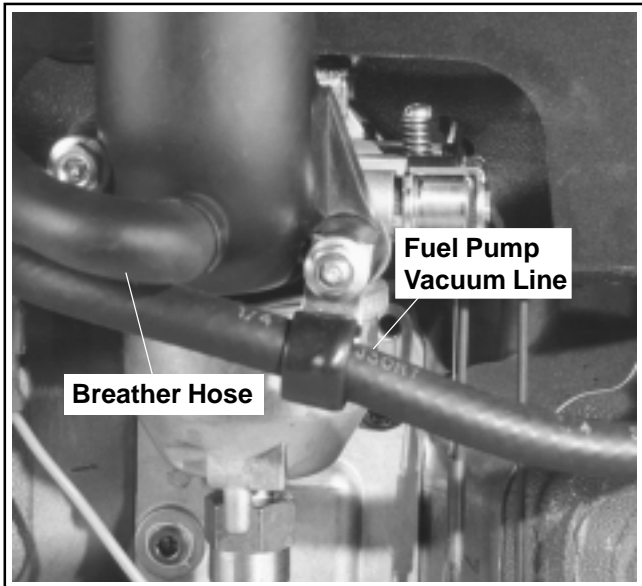

Figure 4-9. Base Plate Removal on Standard Type.
3. Remove the two hex. flange nuts securing air cleaner base and mounting clamp for vacuum (fuel pump) hose onto carburetor studs. See Figure 4-9.